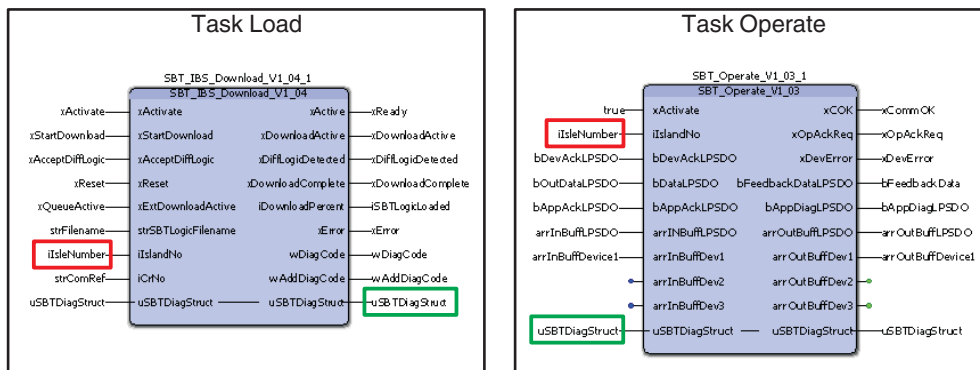

Figure 3-26 Links between the blocks
- Establish a link between the blocks in the various tasks using the variables according to Figure 3-26.